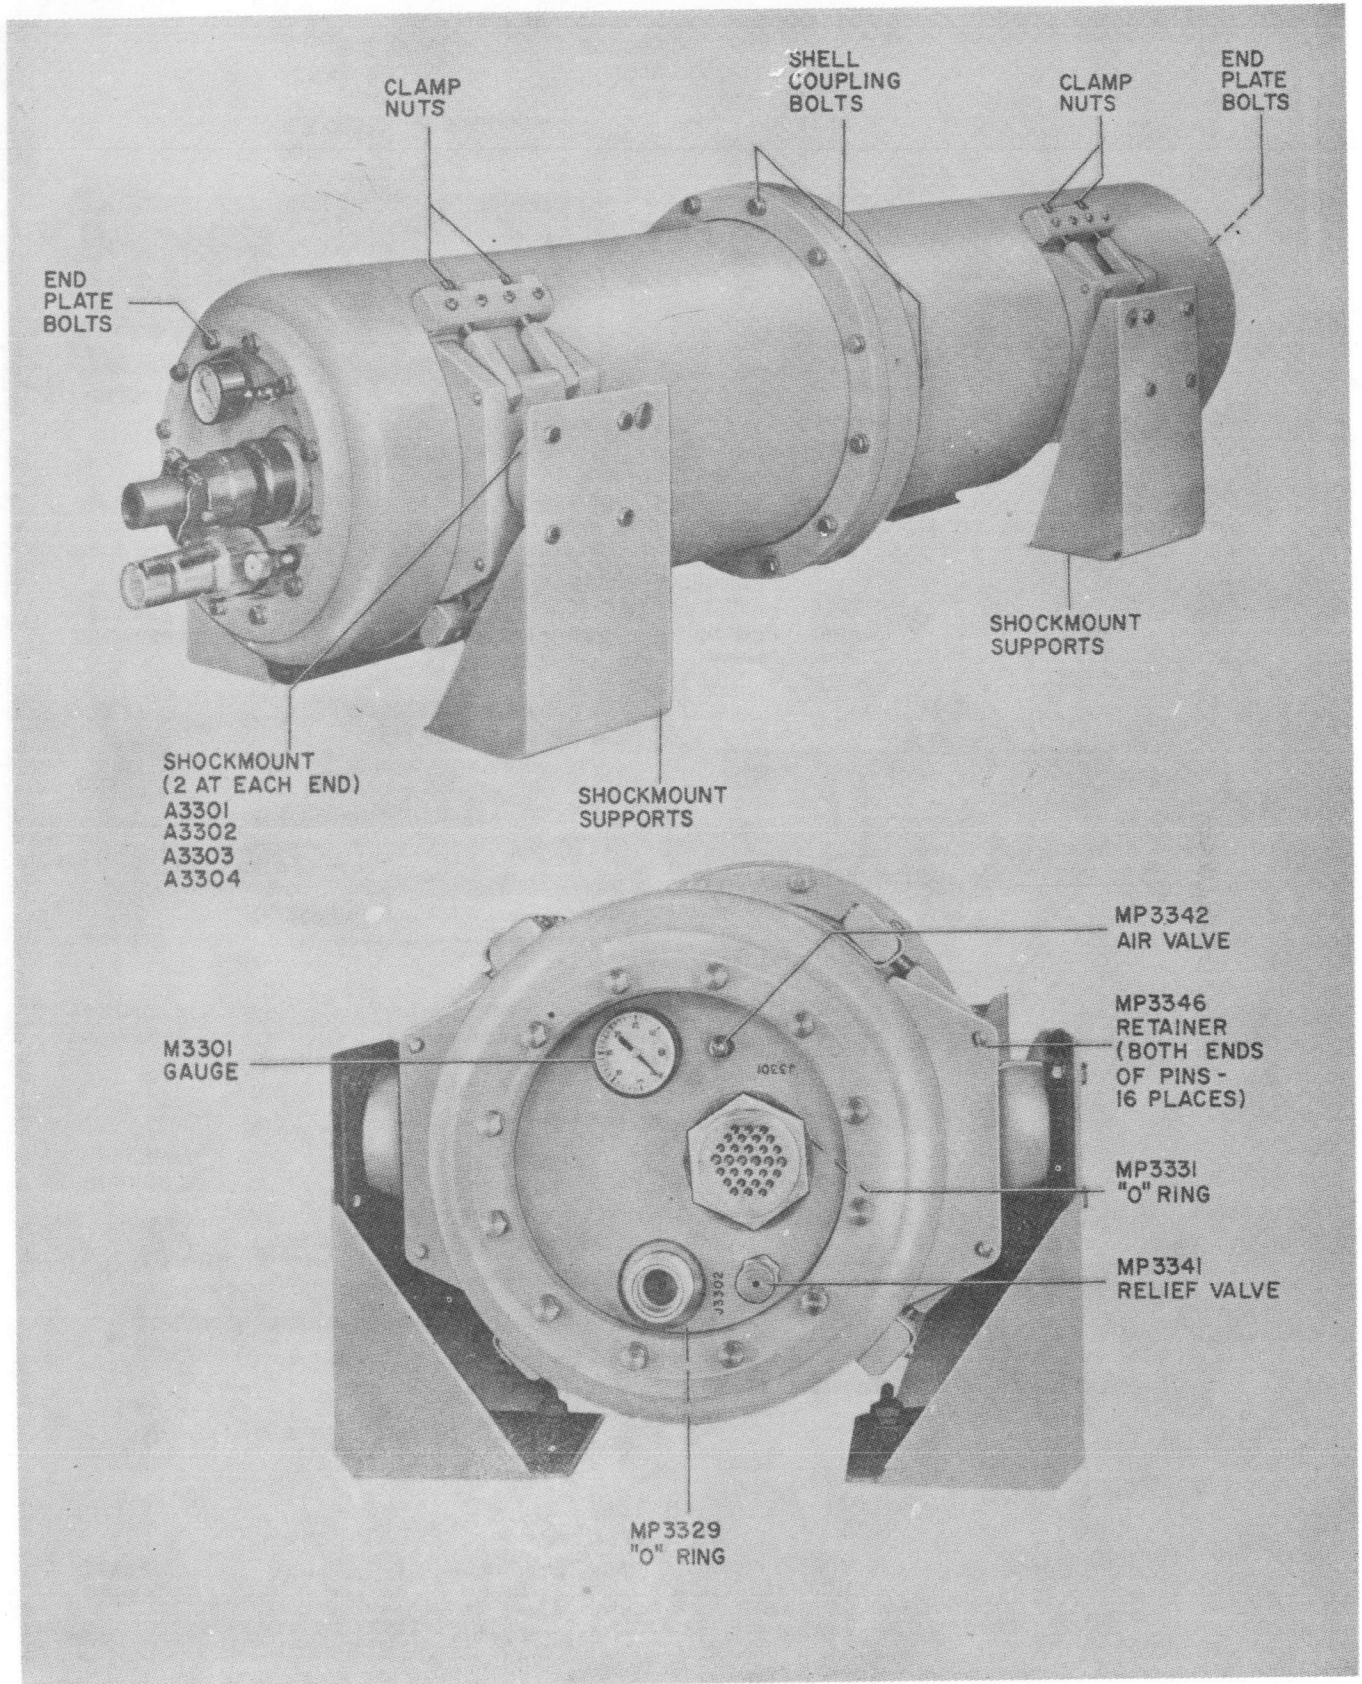

Figure 6-23. Radio Frequency Tuner TN-342/WRT-2, Removal of Case
Remove the four bolts which secure each shockmount to its support. Remove the r-f tuner from the supports. Do not dent the case or strike the receptacles, valves, etc., which protrude from the ends of the case. Refer to figures 6-23 and 6-24 during removal and disassembly.
(2) REMOVAL OF R-F TUNER FROM CASE.—To remove the r-f tuner from its case, refer to figure 6-23 and proceed as follows: